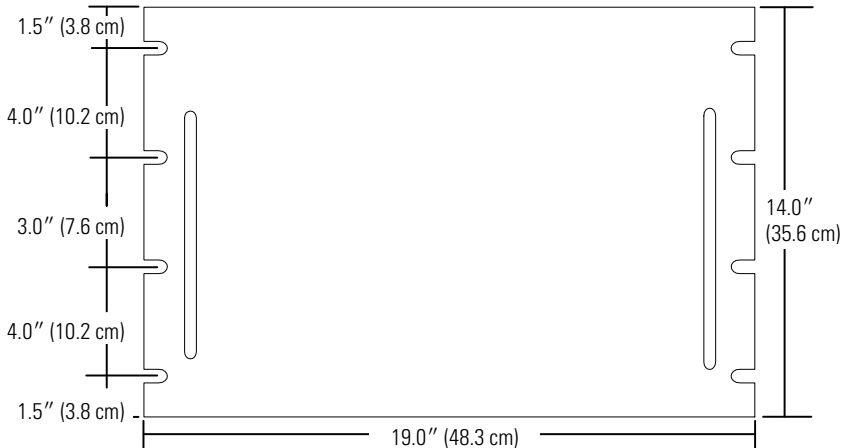

Figure 7. RBC-1 and RBC-2 Front Panel Bolt Slot Measurements
3. To ensure the front panel bolts align with the holes in the rack, use the slot measurements in Figure 7 to position the frame before you attach it to the rack.